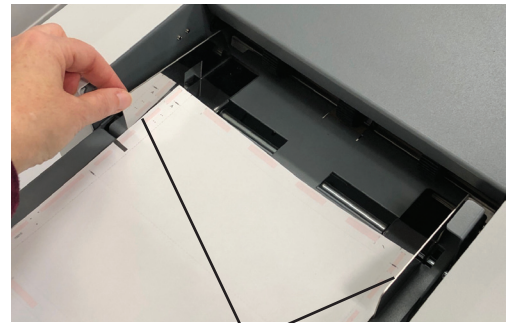

Fig. 4
2. Set the side guides for the width of the forms. Slide each guide inward or outward to allow the forms to slide freely. (Fig. 4)